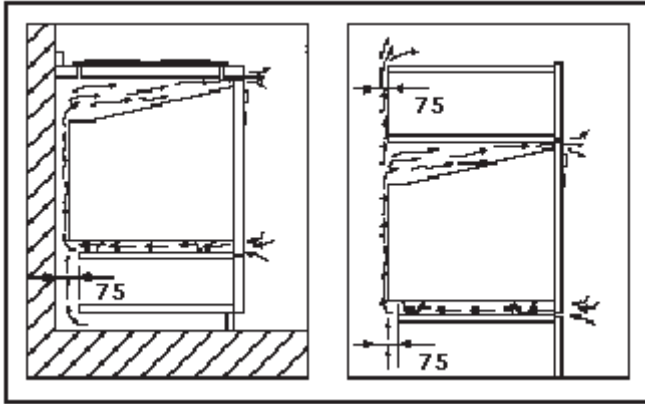

Figure 3
- ❖ The rear panel of the cabinet must be removed so that air circulates freely. The panel to which oven is fitted should have a gap at least 75 mm at the rear. **(See Figure 3)**